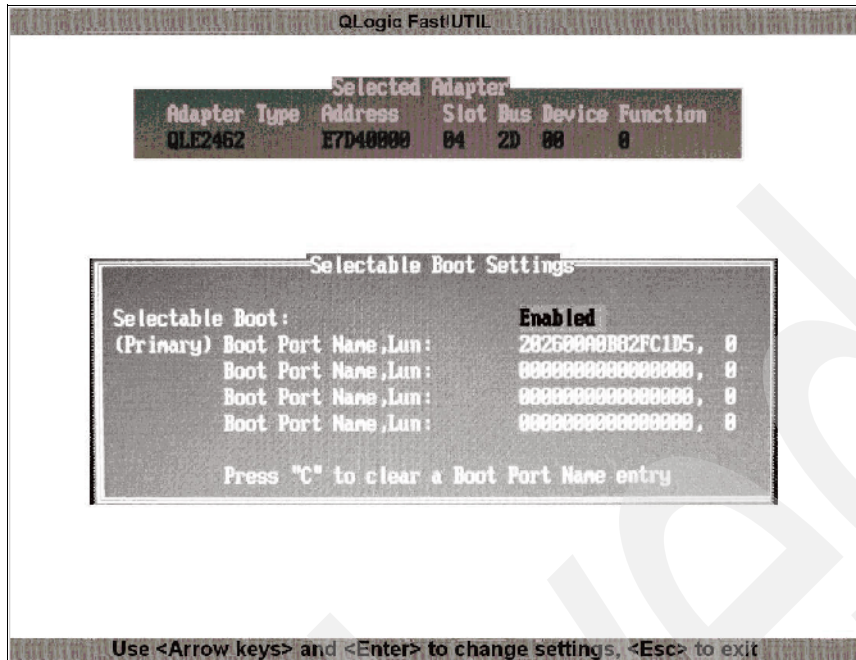

Figure 26-29 Selectable Boot Settings
9. Move the cursor to (Primary) Boot Port Name, LUN field and press Enter. Now select the DS3400 entry as the boot device. The controller B FC host port WWN should appear and the LUN should be 0 (see Figure 26-29 on page 669). If you do not see an entry, verify that the ownership of LUN=0 is on controller B and zoning is done correctly.